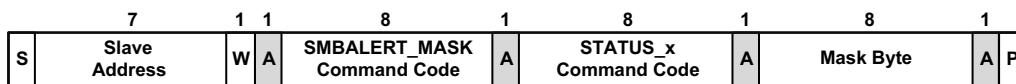

Figure 33. SMBALERT\_MASK Command Packet Format
Figures 33 and 34 show the command format used to block a status bit or bits from causing the SMBALERT# signal to be asserted. The bits in the mask byte align with the bits in the corresponding status register. For example, if the STATUS\_TEMPERATURE command code is sent with the mask byte 01000000b, an over-temperature warning condition would be blocked from asserting SMBALERT#.
**Note:** Figure 33 shows the command format used by the host to determine the SMBALERT\_MASK setting for a given status register.